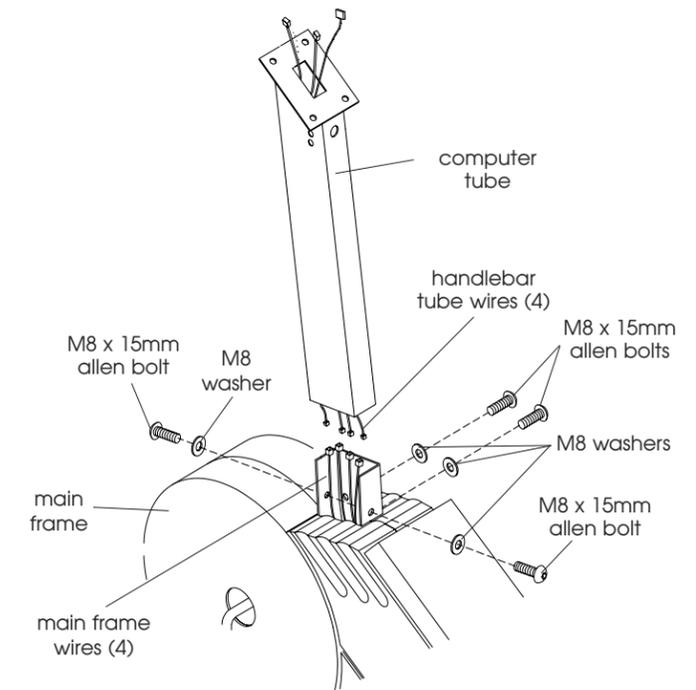

Figure 6 - Install Computer Tube
- Remove (4) Allen Bolts and (4) Washers from Main Frame.
- Connect Main Frame wires to wires in Computer Tube (remove twist ties) and carefully tuck wires into Main Frame while sliding Computer Tube onto Main Frame, see Figure 6.